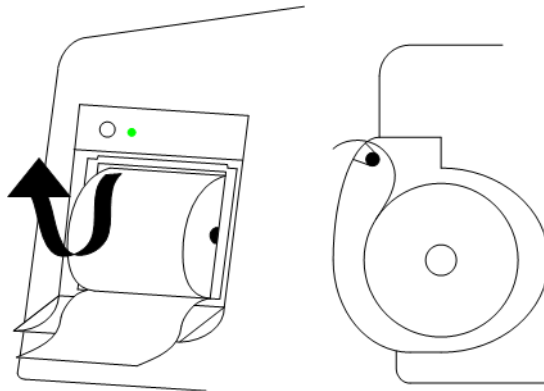

FIGURE 4-3 Paper Loading
3. Replace the paper roll in the holder with the sensitive (shiny) side of the paper facing upward as shown in FIGURE 4-3.
4. Unroll approximately six (6) inches (15 cm.) of paper.